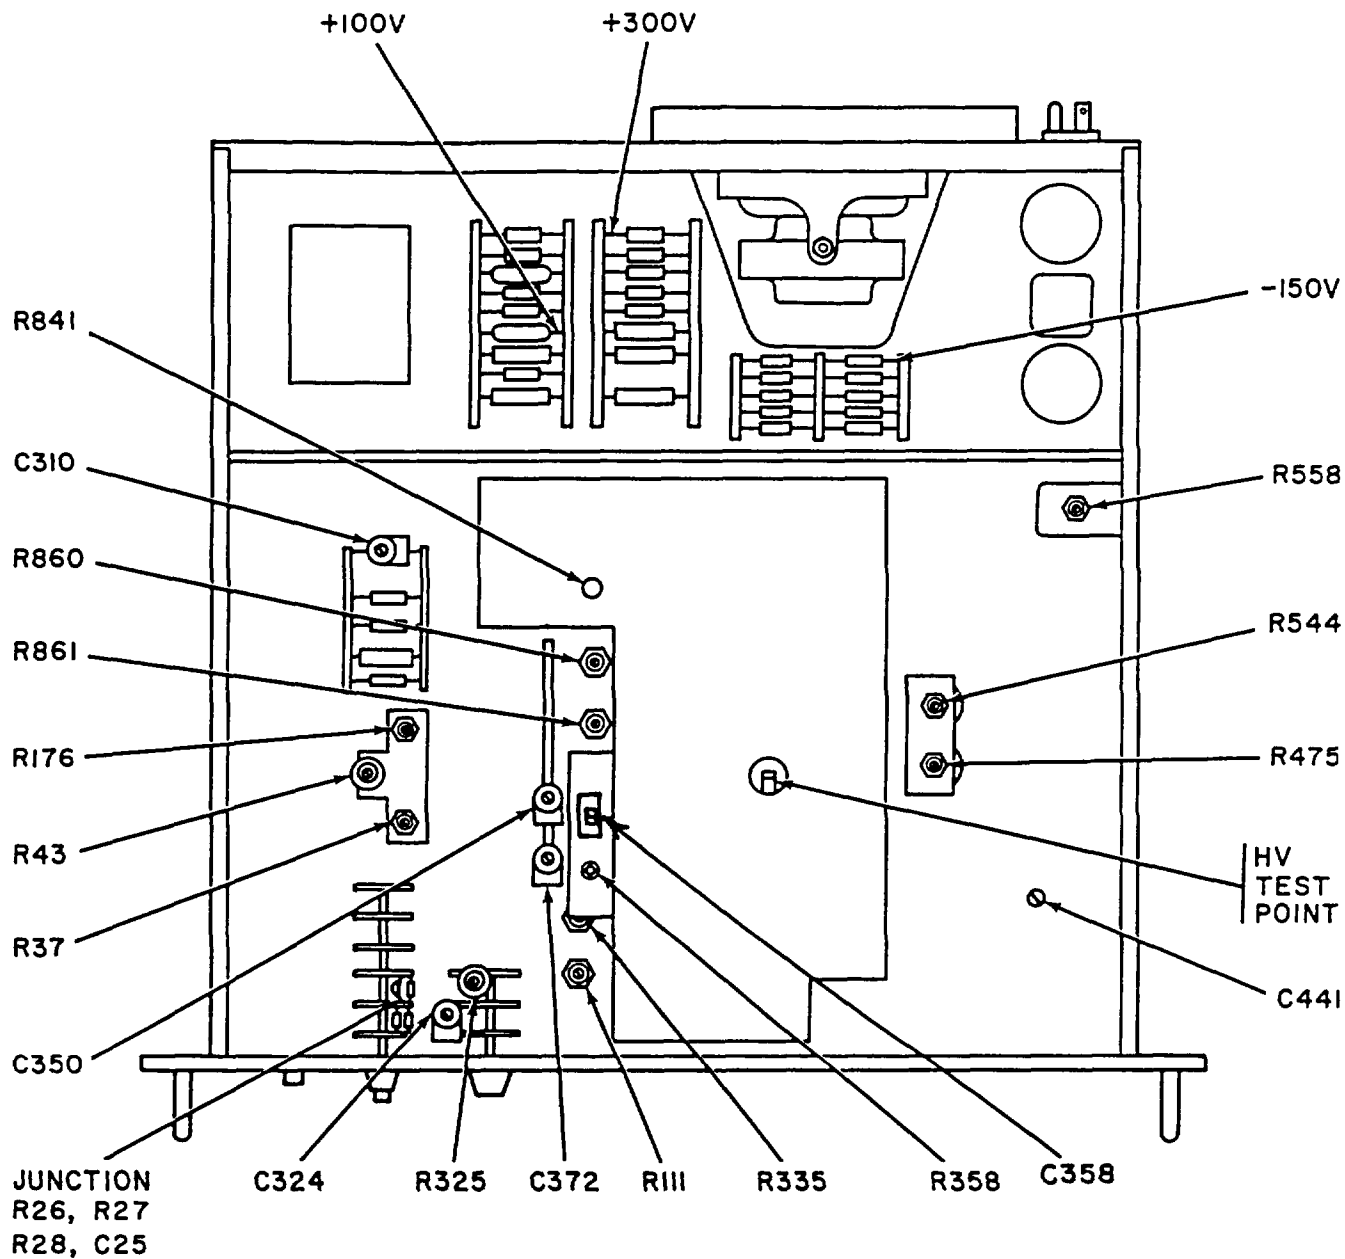

Figure 1. Oscilloscope-bottom view (type RM17).
(1) Adjust R861 (fig. 1) (GEOM ADJ R861, fig. 2) until markers are parallel with vertical graticule line.
(2) Adjust R860 (fig. 1) (ASTIG R856, fig. 2) in conjunction with FOCUS control for sharpest focus of displayed baseline and markers.
(1) Adjust ac calibrator for 141.4 millivolts rms output. Adjust R544 (fig. 1) (GAIN ADJ R244, fig. 5) for 4 major divisions of vertical deflection on crt (R).
¹ Refer to figure 1 for location.
(3) Connect junction of R26, R27, R28, and C25 (fig. 1) (or R426 and R427, fig. 4) to chassis ground, using probe (B9).
(4) Adjust VOLTS/DIV VARIABLE control for 1 minor division of vertical deflection on TI crt.
(5) Position crt trace on horizontal graticule center line.
(6) Alternately switch TI TRIGGER SELECTOR (black) control back and forth from +INT to -INT. If sweep does not have stable triggering in both +INT and -INT positions, perform 6(1) through (3) below.
(7) Remove short connected in (3) above.
(8) Turn TI TRIGGERING LEVEL control to position where stable triggering occurs in both +INT and -INT positions. If stable triggering does not occur when TRIGGERING LEVEL control is in 0 (zero) position, perform b(4) below.
(9) Turn TI TRIGGERING SELECTOR (red) switch to DC.
(10) It may be necessary to adjust TI VERTICAL POSITIONING control until sweep appears on crt.
(11) Adjust VOLTS/DIV VARIABLE control for 1.5 minor divisions of vertical display on TI crt. If crt display is not positioned at the center horizontal graticule line, while TI TRIGGER SELECTOR (black) switch is turned from +INT to -INT, perform b(5) below.
(12) Turn TI VOLTS PEAK-TO-PEAK switch to OFF.
(13) Remove lead (B7) or cable (B5) connected in (1) above.
(1) Adjust TI TRIGGER LEVEL CENTERING R37 (fig. 1) (R437, fig. 2) until stable triggering is obtained in both +INT and -INT positions.
(2) Reduce amplitude of crt display, using VOLTS/DIV VARIABLE control until display becomes unstable. Adjust R43 (fig. 1) on TI's with S/N 203 and above (TRIGGER SENSITIVITY ADJ. R443, fig. 4) until stable triggering is obtained in both +INT and -INT positions.
(3) Repeat (1) and (2) above until no further adjustments are required.
(4) Loosen setscrew on TRIGGERING LEVEL knob and adjust to 0 (zero) position without turning potentiometer shaft. Tighten setscrew.